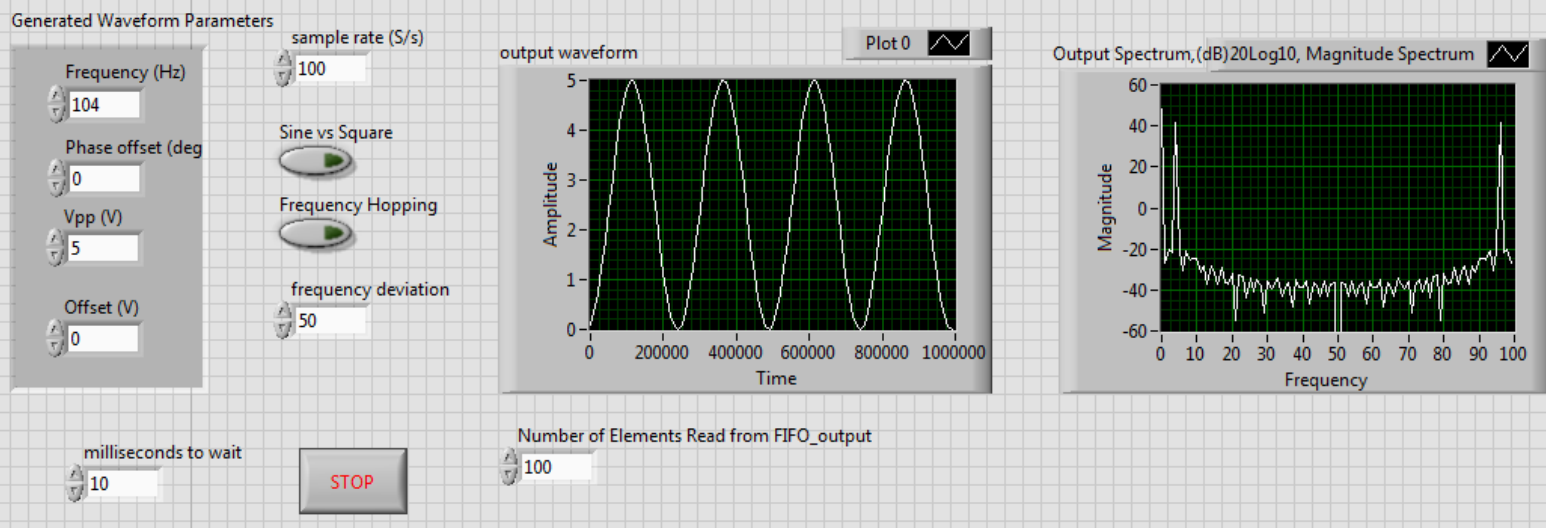

Fig. 16. Front panel of CPU VI for the Part 1.
- 23) Now, you can run your CPU VI and do the following task. An example front panel is shown in Fig. 16.